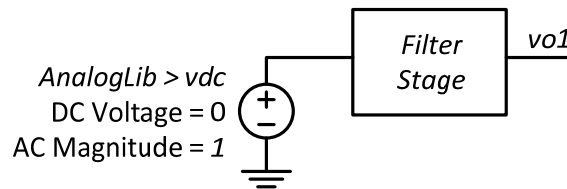

Figure 4. Example Cadence schematic for P1.3b.
- b) Build the two stages filter stages separately on the same schematic in Cadence. Do not wire them together in series yet. Connect a separate DC voltage source (*AnalogLib* > *vdc*) to the input of each stage, as illustrated in Figure 4. Give these sources a DC amplitude of 0V and an AC amplitude of 1V. Label the output nets of the stages *vo1*, *vo2*.